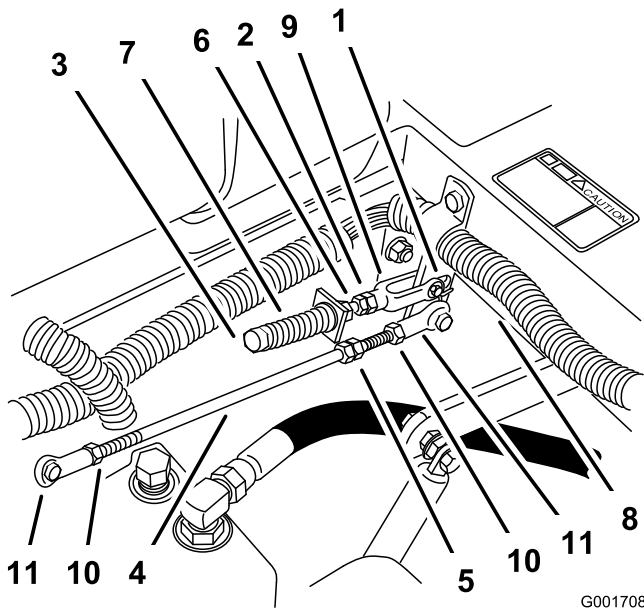

Figure 60
1. Loosen the locknuts at the ball joints on the pump control rod (Figure 60).
3. Adjust the pump rod length by rotating the double nuts on rod, in the appropriate direction, until wheel is still or slightly creeps in reverse (Figure 60).
6. Tighten the locknuts at the ball joints (Figure 60).